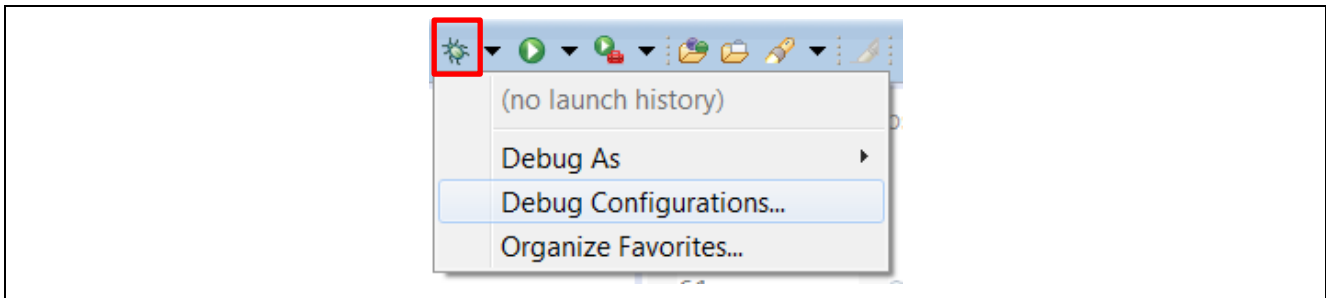

Figure 3. Debug options
2. Select the **Debug Configurations** option as shown in Figure 3.